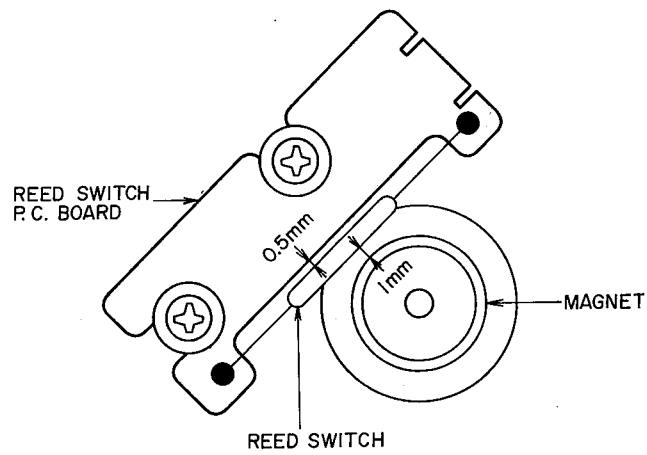

Fig. 13
10. REED SWITCH POSITION ADJUSTMENT (Refer to Fig. 13)